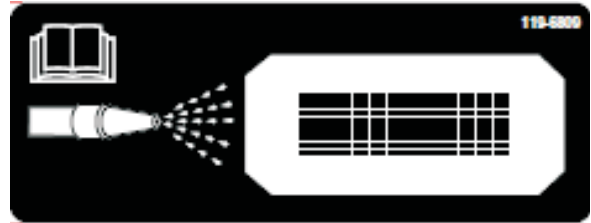
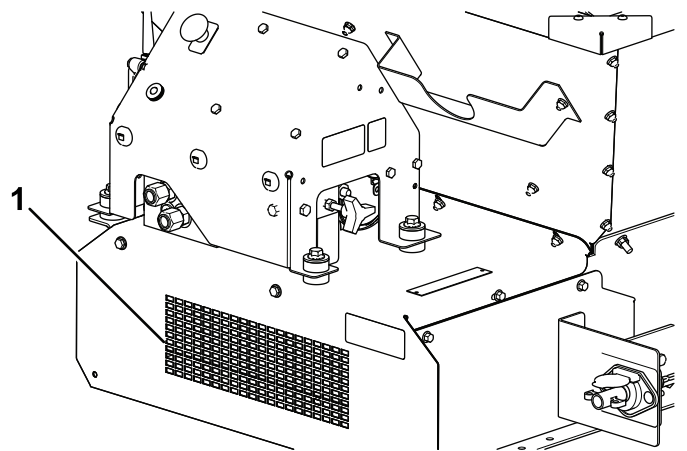

Figure 61
Figure 62
11. Locate the clean-out decal on the front of the machine (Figure 61), using a garden hose, spray through the front guard mesh until the belly pan is completely clear of material (Figure 62).